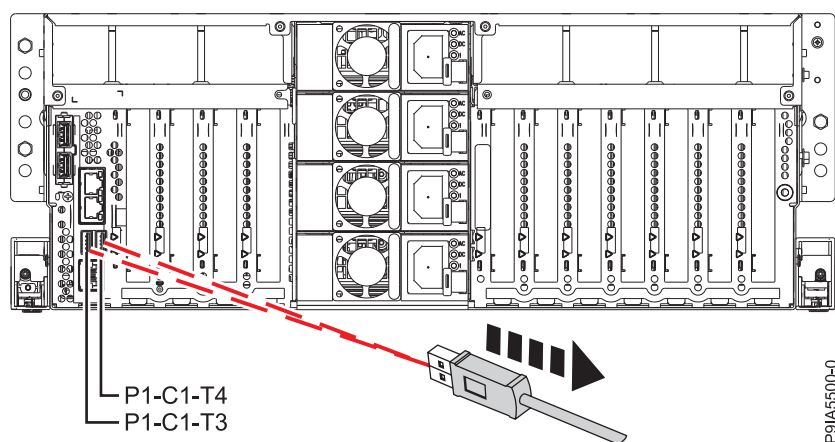

Figure 5. Removing a USB cable
2. Disconnect the USB cable indicated in the **FRU Location** field in the upper left of this page. See Figure 5.